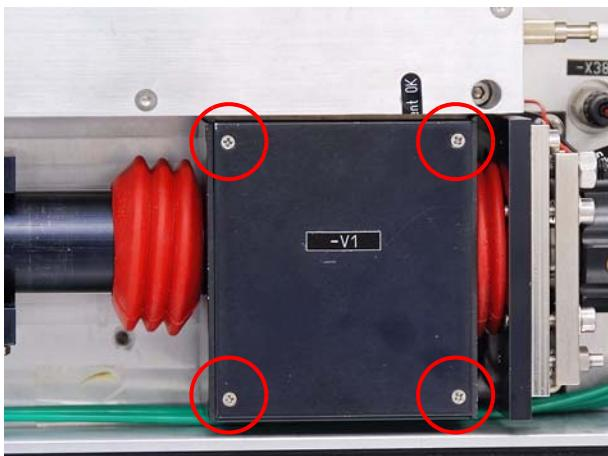

Figure 7.140 Alignment laser cover
4. Loosen the four fastening screws on the cover of the alignment laser (see Figure 7.140).